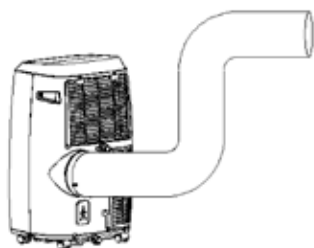

Fig. 6
- 3) As shown in Fig. 6, connect drain hose well (only for using heating model) ;